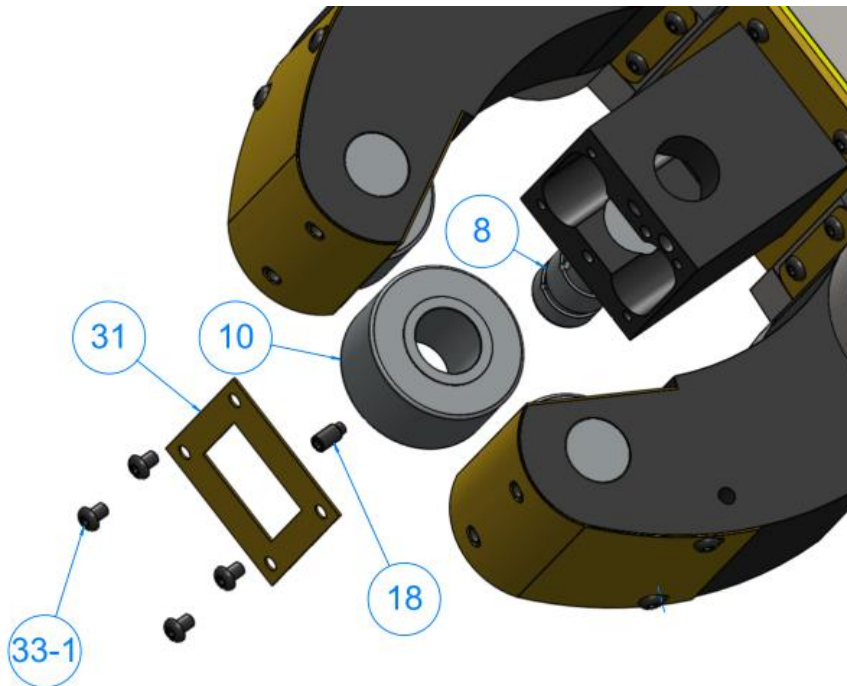

Figure 8. Shows dismounting sketch for middle piece roller.
- Apply hydraulic to the cylinder connection (no 3) for opening and connection (no 4) for closing, both threads G3/8". **Note:** do not use higher pressure than needed for specific workpiece, and do not exceed recommended maximum pressure (see Figure 8).
- Activate the cylinder with selected working pressure (see Figure 8), make the steady rest open and close so that the rollers clamp the shaft. **Note:** the steady rest must not be tightened to the bracket at this time.
Dismounting is done in order as per Figure 8.